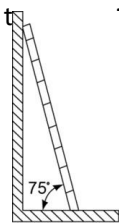

Figure 1-1 Schematic diagram of the inclination of the ladder
- Figure 1-1, the inclination of the ladder is preferably 75°, which can be measured with a square or arm. Ladders should be used with the wide feet facing down or with protection at the bottom of the ladder to prevent the ladder from falling. Ladders should be placed in a stable place.